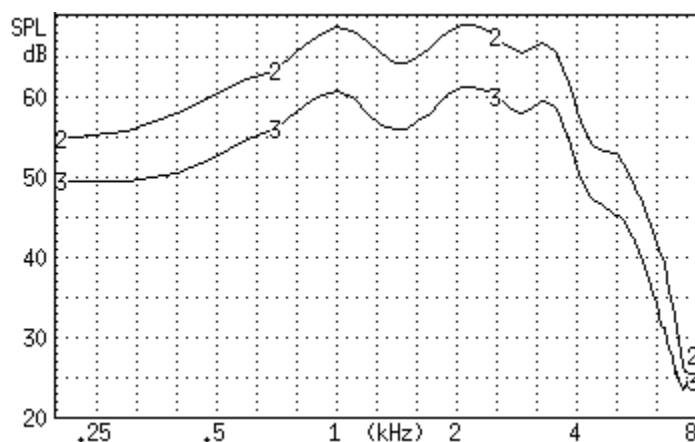

Figure 6.5.4—Testing noise suppression of a digital hearing aid. REAR 2 was tested using Digital Speech. REAR 3 was tested using the Composite Signal.
9. Press [START] to start the measurement. After the measurement has stabilized, press [STOP] to stop the measurement. Figure 6.5.4 illustrates an example of a digital hearing aid with noise suppression. Curve 2 shows the response of the aid to the Digital Speech curve, and Curve 3 shows the response of the aid to the Composite signal.